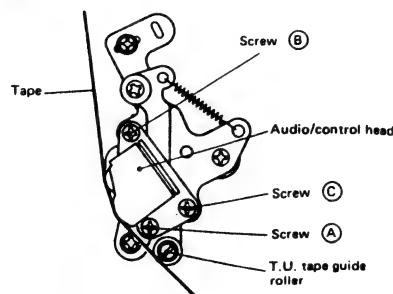

Fig. 2-48 A/C head height adjustment
3. Adjust screws (A) and (B) (shown in Fig. 2-48) for both maximum output levels and absence of phase difference between CH-1 and CH-2.